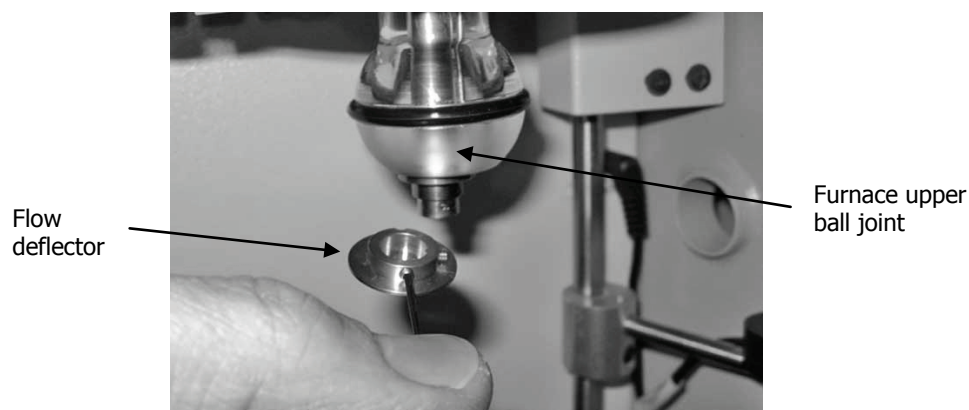

Figure 47 Removing the flow deflector
2. Remove the flow deflector (anti-diffusion cap) from the furnace upper ball joint, by unscrewing the two grub screws (hex-head screws) using the Allen key provided in the Pyris 1 TGA spares kit (Figure 47).